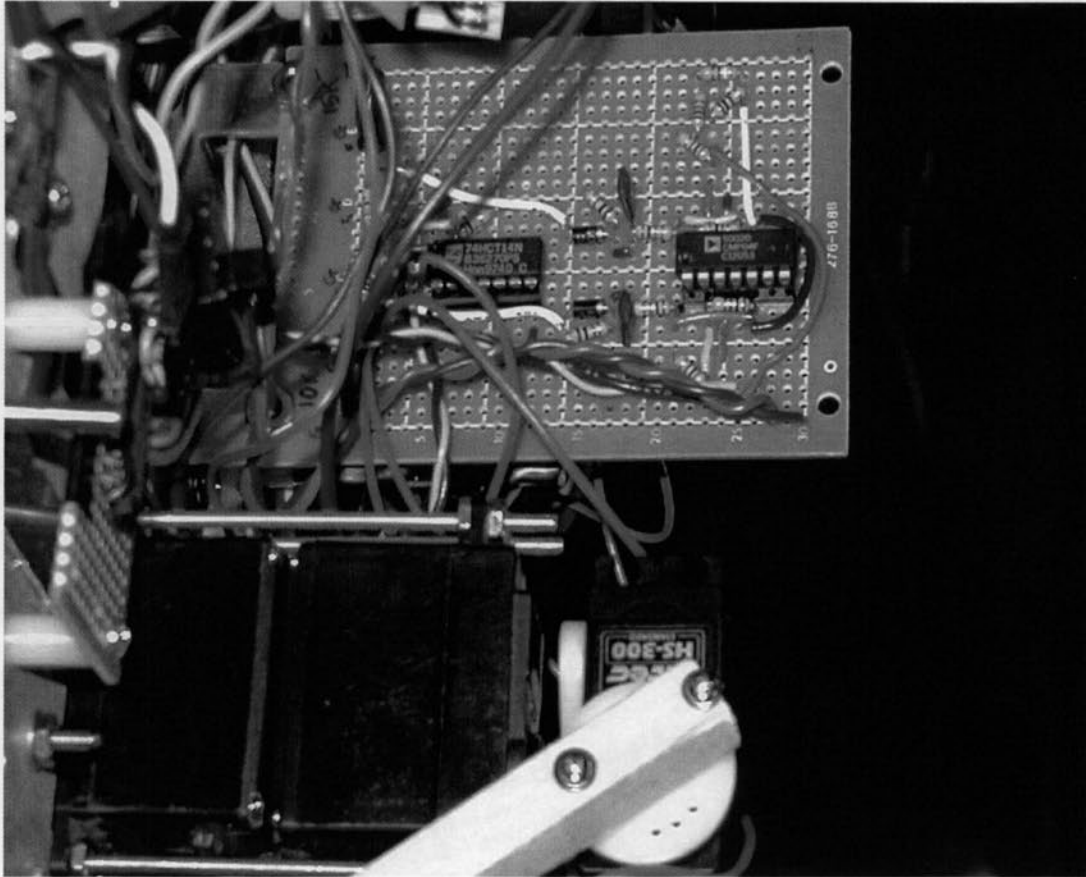

Fig. 7 – Modulated Infrared LED Detector
- The blue wire from the filter board, which is the output of the comparator for the 10kHz, or purple side, is then connected to the rabbit through pin PB1, which is pin 14 on the 16-pin header located on the Rabbit board. See Fig. 7.